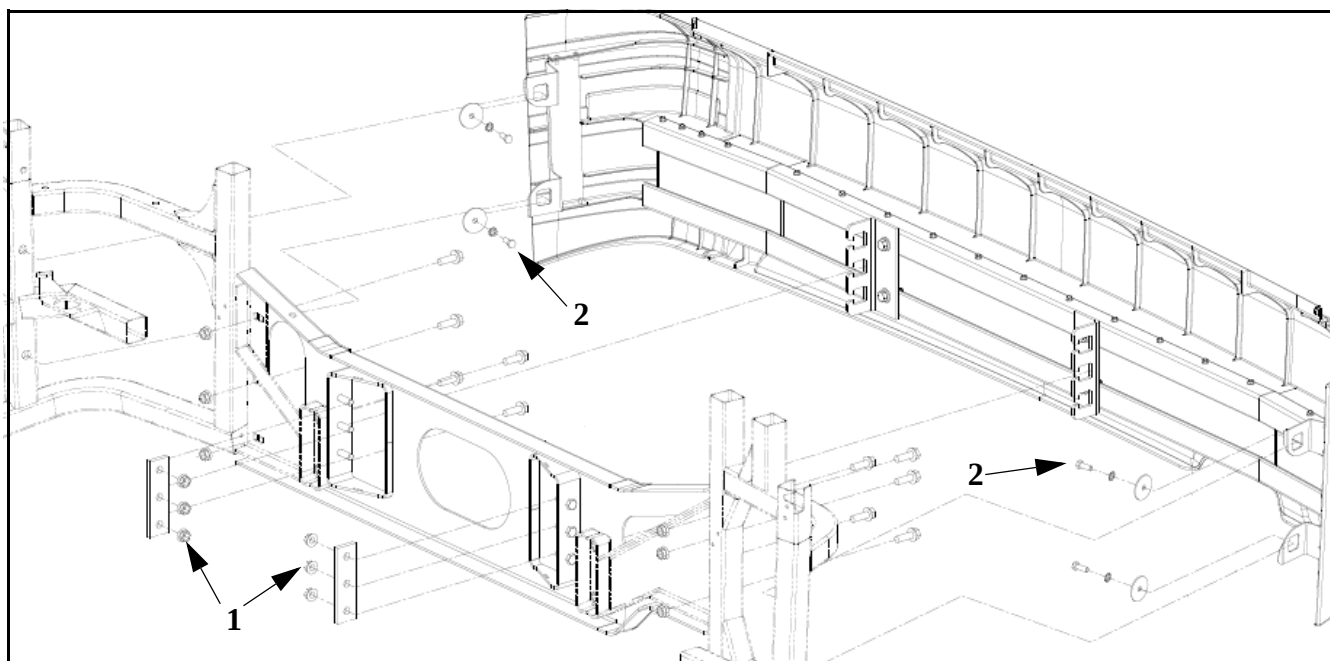

Figure 35. Bumper installation to coach frame.
88. Align the side bumpers to follow the fender edge. Tighten the two (2) bolts to secure position. Torque to 18-22 ft-lbs. (refer to Figure 35). Repeat to the opposite side of the coach.
89. Torque the six (6) center bolts to 100-123 ft-lbs. (refer to Figure 35).
Item	Figure 35 Description